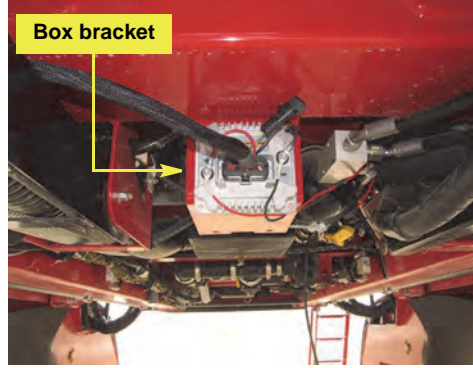

Figure 1a: AC110 installation
- a. Under the machine, locate the forward face of the box bracket in line with the front wheels (between the remote fill station pivots—Figure 1a).
Using ties **G** (or your own hardware), attach the AC110 **B** to the box bracket (Figure 1a—see next step for AC110 connections).